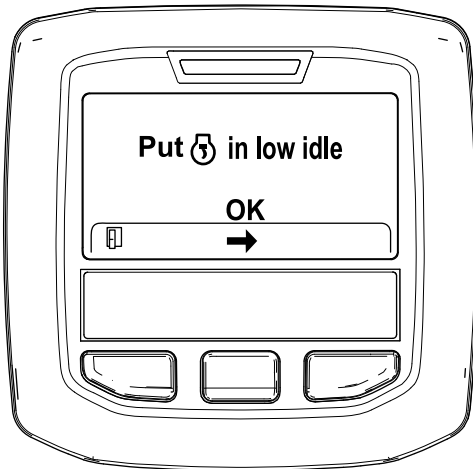

Figure 51
6. Move the throttle control to LOW IDLE and press the center button (Figure 51).